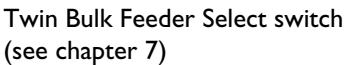

FIGURE 3.1 The timing control part on the PCB.
- 3a. First, some components should be tumbled in the bulk cassette. The time used to tumble the components is determined by a timing parameter set by selecting the correct bulk feeder type (see figure 3.1).
- 3b. After tumbling, the components will fall down and some will make it to the component transport area (average hit rate higher than 100%). The control unit gives the components some time to fall into this transport area. This time is determined by a timing parameter set by selecting the correct bulk feeder type (see figure 3.1).
- 3c. Once arrived in the transport area, the components must still travel a long distance before reaching the pick position. To do this, they will be blown forward. This time that components are blown forward is determined by a timing parameter set by selecting the correct bulk feeder type (see figure 3.1).